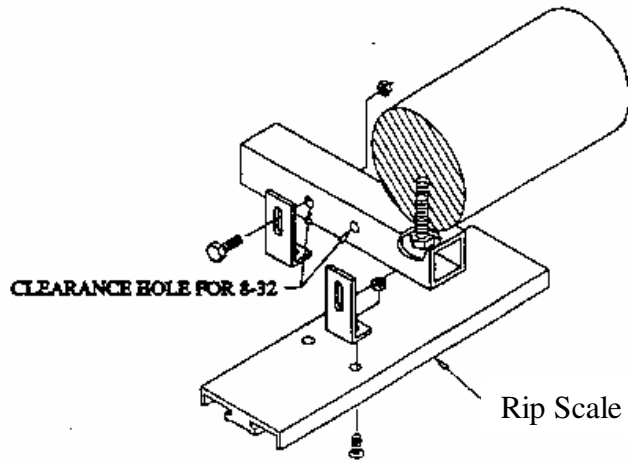

Figure 2.
6. Mount the right end of the scale as shown in Figure 2. (You may also choose to drill and tap for mounting the right angle brackets. You will need a #29 drill and 8-32 tap.)